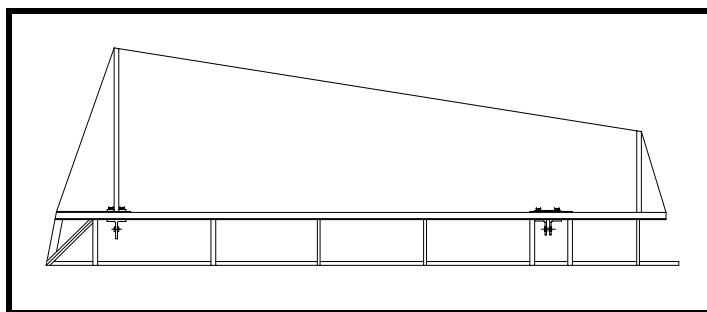

Figure 5
- ☐ Fit the trailing edge ribs for Sta. 0 and 5. See Figure 5. The Sta. 0 rib must be centered between the channel-nuts for the control arm. Since a string will be used for aligning the ribs, a brace should be made of wood to support these two ribs to keep them from “leaning” due to the tension of the string.
- ☐ Loop a string over the ends of these two ribs to align the other rudder trailing edge ribs. See Figure 5.